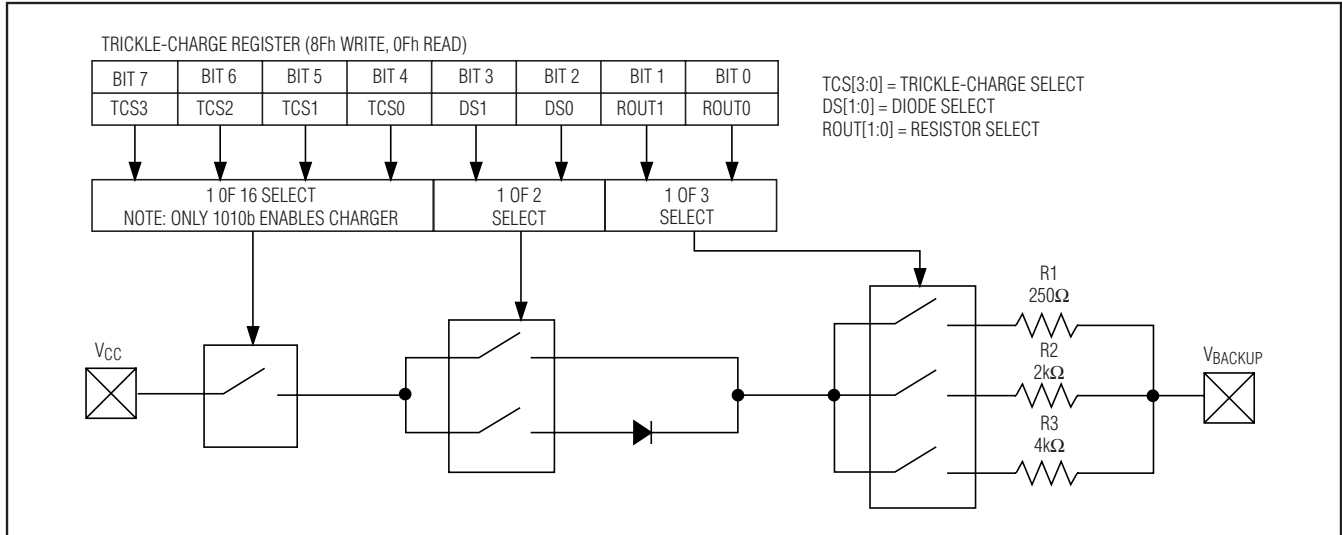

Figure 8. DS1390-DS1394 Programmable Trickle Charger
The simplified schematic in Figure 8 shows the basic components of the trickle charger. The trickle-charge select (TCS) bits (bits 4 to 7) control the selection of the trickle charger. To prevent accidental enabling, only a pattern on 1010 enables the trickle charger. All other patterns disable the trickle charger. The trickle charger is disabled when power is first applied. The diode-select (DS) bits (bits 2 and 3) select whether or not a diode is connected between V_{CC} and V_{BACKUP}. If DS is 01, no diode is selected or if DS is 10, a diode is selected. The ROUT bits (bits 0 and 1) select the value of the resistor connected between V_{CC} and V_{BACKUP}. Table 5 shows the resistor selected by the resistor-select (ROUT) bits and the diode selected by the diode-select (DS) bits.